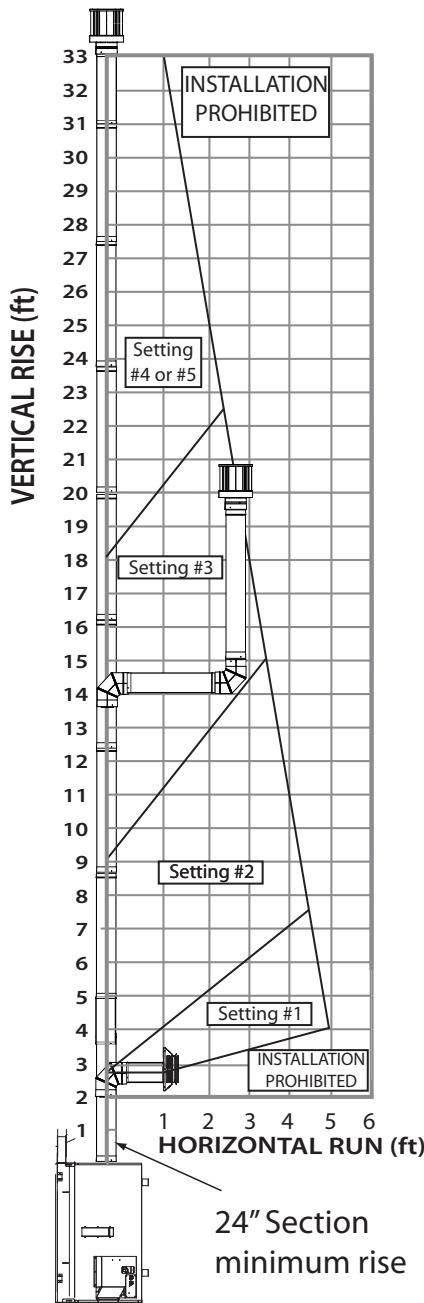
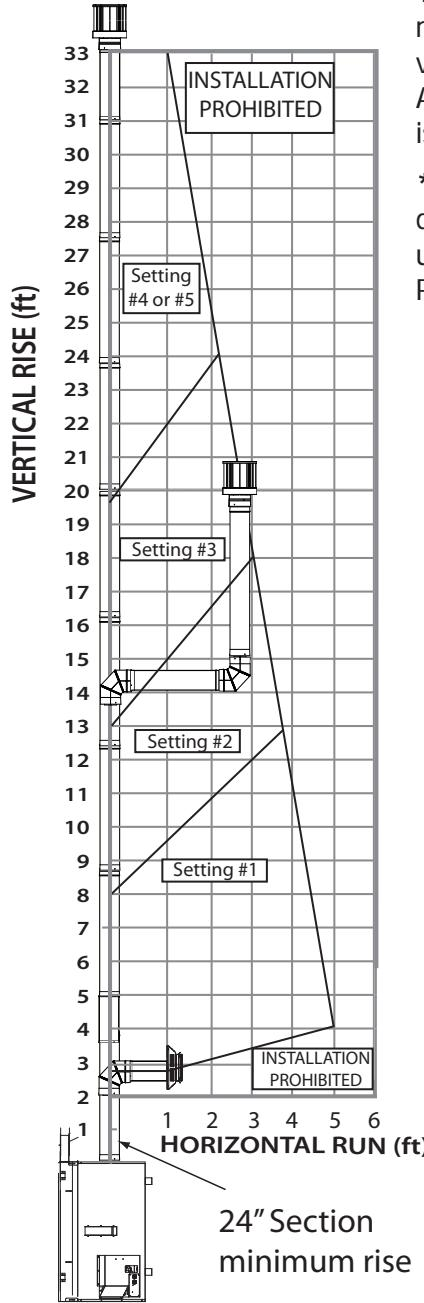

Figure 65: 8" x 11" NG Vent Graph
Figure 66: 8" x 11" LP Vent Graph
***Note:** Be sure to use the proper diagram depending on if your unit uses Natural Gas (Figure 65) or Propane (Figure 66).